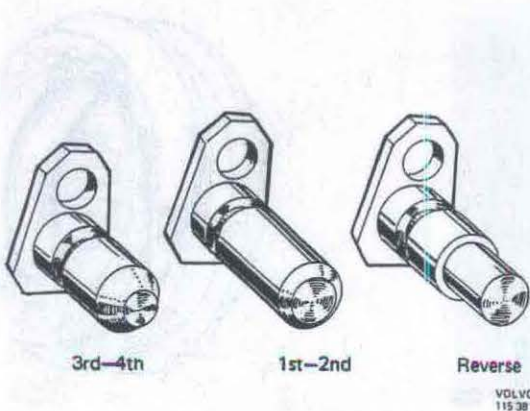

Fig. 43-112. Bearing pins
12. Fit the bearing pins in the selector forks for reverse and 1st-2nd, see Fig. 43-111. There are three types of bearing pins, see Fig. 43-112.